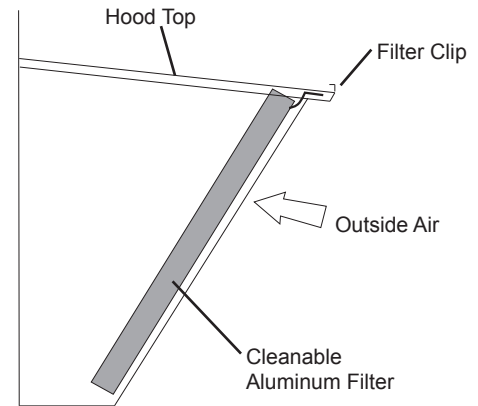

Fig. 5 - Filter Installation
14. Open the filter clips on the inside of the hood top. Insert the aluminum filter into the hood and close the clips to hold in place. See Fig. 5.